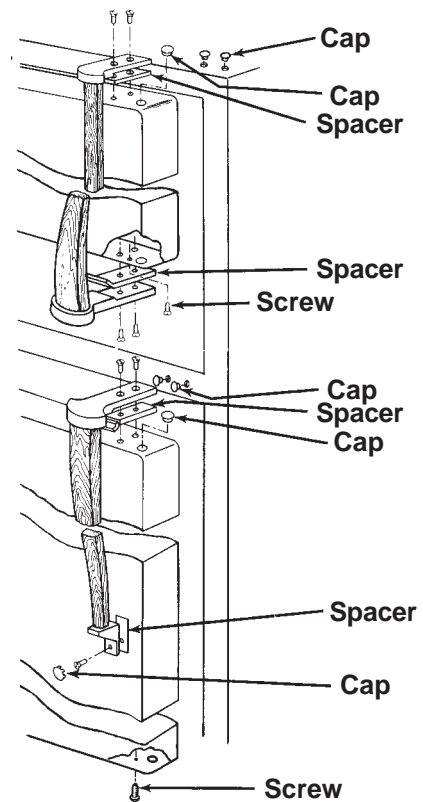

Fig. 42
2. Remove the top hinge. (Fig. 42)
4. Remove the center hinge. (Fig. 42)
6. Remove the bottom hinge. (Fig. 42)
7. Lay the freezer door on a flat protected surface and remove the door handle. (Fig. 42)
9. Lay the refrigerator door on a flat protected surface and remove the door handle. (Fig. 42)